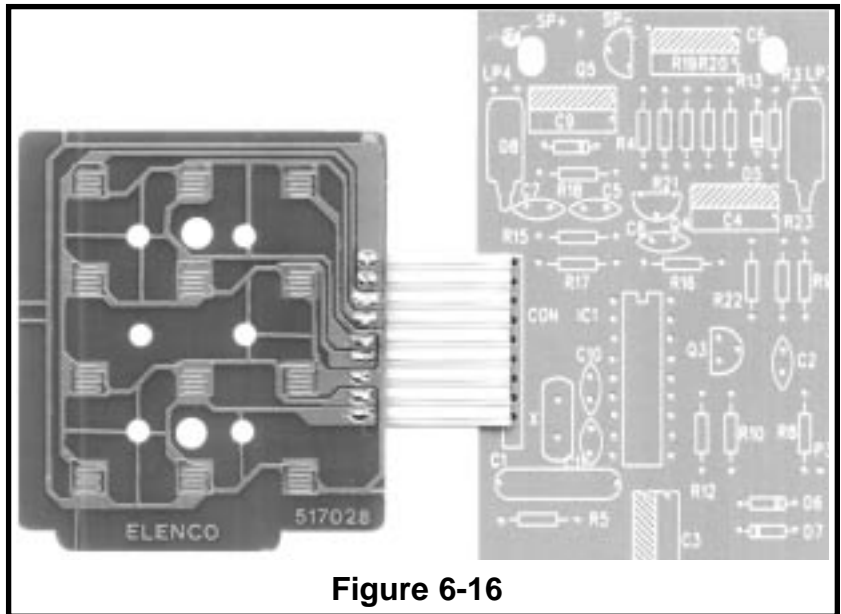

Figure 6-16
- Insert the ribbon cable through the holes in the main PC board and solder as shown in Figure 6-16.
- Insert the ribbon cable through the holes in the keyboard PC board. Solder the ribbon cable to the keyboard's PC board as shown in Figure 6-16.